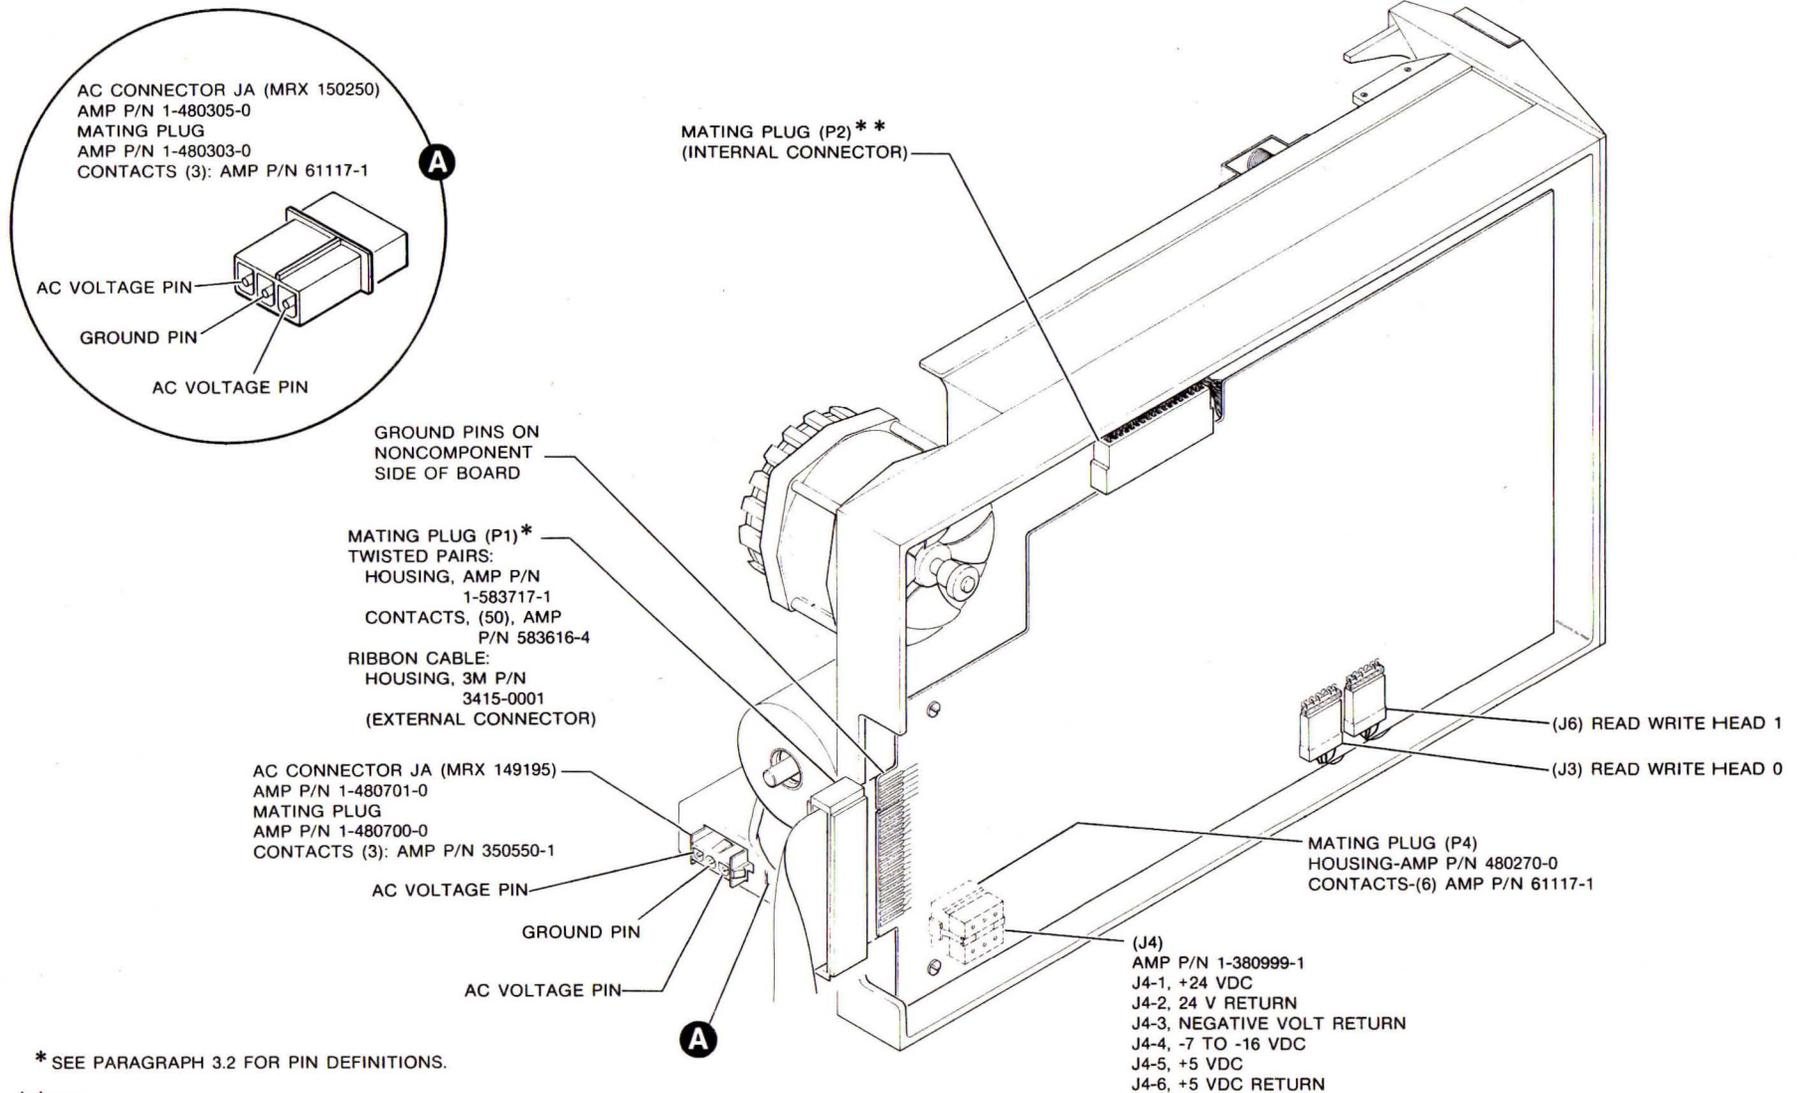

FIGURE 3-1. INTERFACE CONNECTORS—PHYSICAL LOCATION DIAGRAM
The J1 connector is a 50-pin connection with odd numbered pins common ground on the noncomponent side of the PCB (see paragraph 3-2). The contact pads are 100 mil centers and have a two key slot between contact pads 10, 12, and 14. The key slots are 0.036 ±0.004-inch wide and 0.450 ±0.010-inch in length as shown in Figure 3-1.
The PCB connection to internal circuits is accomplished by a 36-pin connector, J2. (See Figure 3-1 and Table 3-2.)
The controller provides power to the drive(s) via an AC connector (JA). Memorex offers the user a choice between the AC connector types. The first of these is a VDE compatible connector and is designated as Memorex P/N 159195 (AMP P/N 1-480701-0). The mating plug associated with this connector is defined as AMP P/N 1-480700-0. The second AC connector is designated as Memorex P/N 150250 (AMP P/N 1-480305-0) with an associated mating plug designated as AMP P/N 1-480303-0. The AC connectors are illustrated in Figure 3-1.